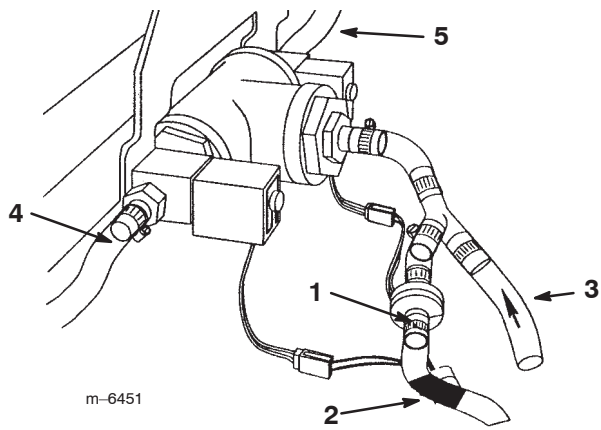

Figure 25
13. Ensure that the marked supply hose is connected at the compressor and the check valve. If not, correct it before using (Fig. 25).
15. Secure both hoses with small hose clamps (Fig. 25).